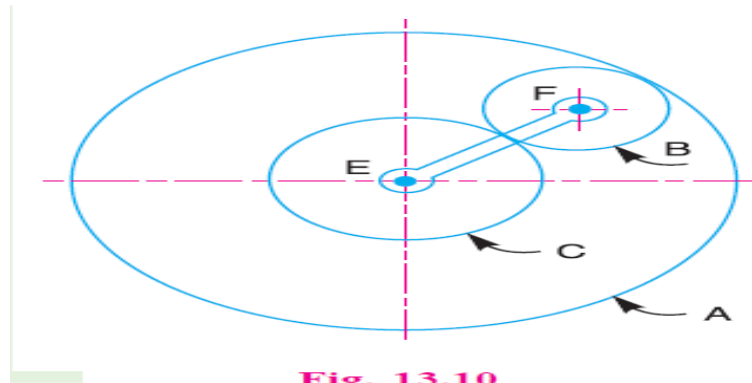

Fig. 13.10
7. An epicyclic gear consists of three gears A, B and C as shown in Fig. 13.10. The gear A has 72 internal teeth and gear C has 32 external teeth. The gear B meshes with both A and C and is carried on an arm EF which rotates about the center of A at 18 r.p.m.. If the gear A is fixed, determine the speed of gears B and C [10M]